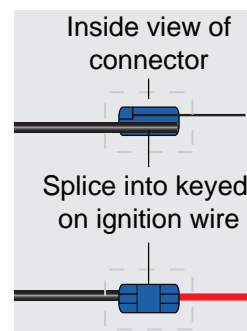

fig. 7
4. Using the wire tap provided with the harness, splice the red wire connected to the 5-amp fuse that feeds the Electronic Height Sensor to a keyed ignition source. (Fig. 7)